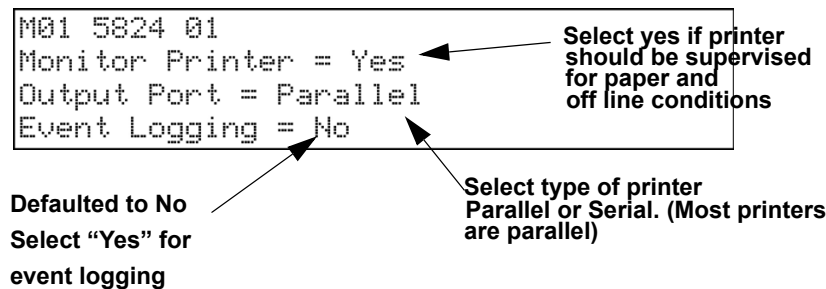

Figure 4-21 Selecting Printer and Output Port Options
5. Press the right arrow twice to skip over the Enter Module ID and Enter Module Name options. A screen similar to the one shown in Figure 4-21 will display.